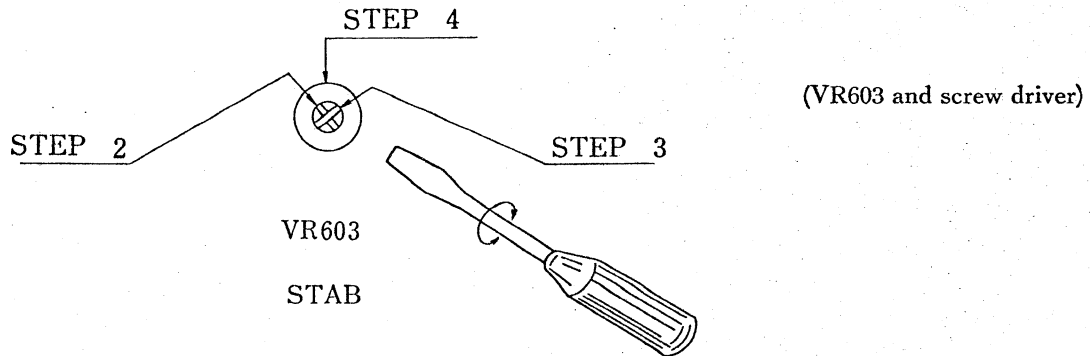

Fig. 5-3 Stability adjustments.
- STEP 4. Finally, set VR603 at the position midway between the settings, see Fig. 5-3.